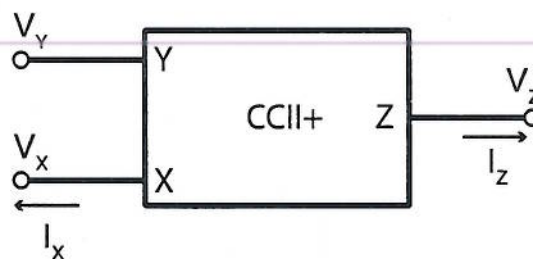

Figure 4.1
4. a) Figure 4.1 shows a conventional second-generation positive current conveyor, CCII+.
iv) Using the current conveyor in Figure 4.1, draw the schematics of a current mode integrator and a voltage mode integrator, each with a time constant, $\tau = 1\text{s}$. You may assume $R = 100\text{k}\Omega$. [4]